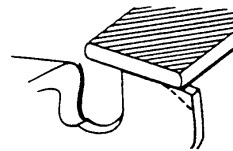

Fig. 4-4
- 4) Round off front corner to maintain original shape of depth gauge after using depth gauge tool. Always follow the recommended depth gauge setting found in the maintenance or operator manual for your saw. (Fig. 4-4)